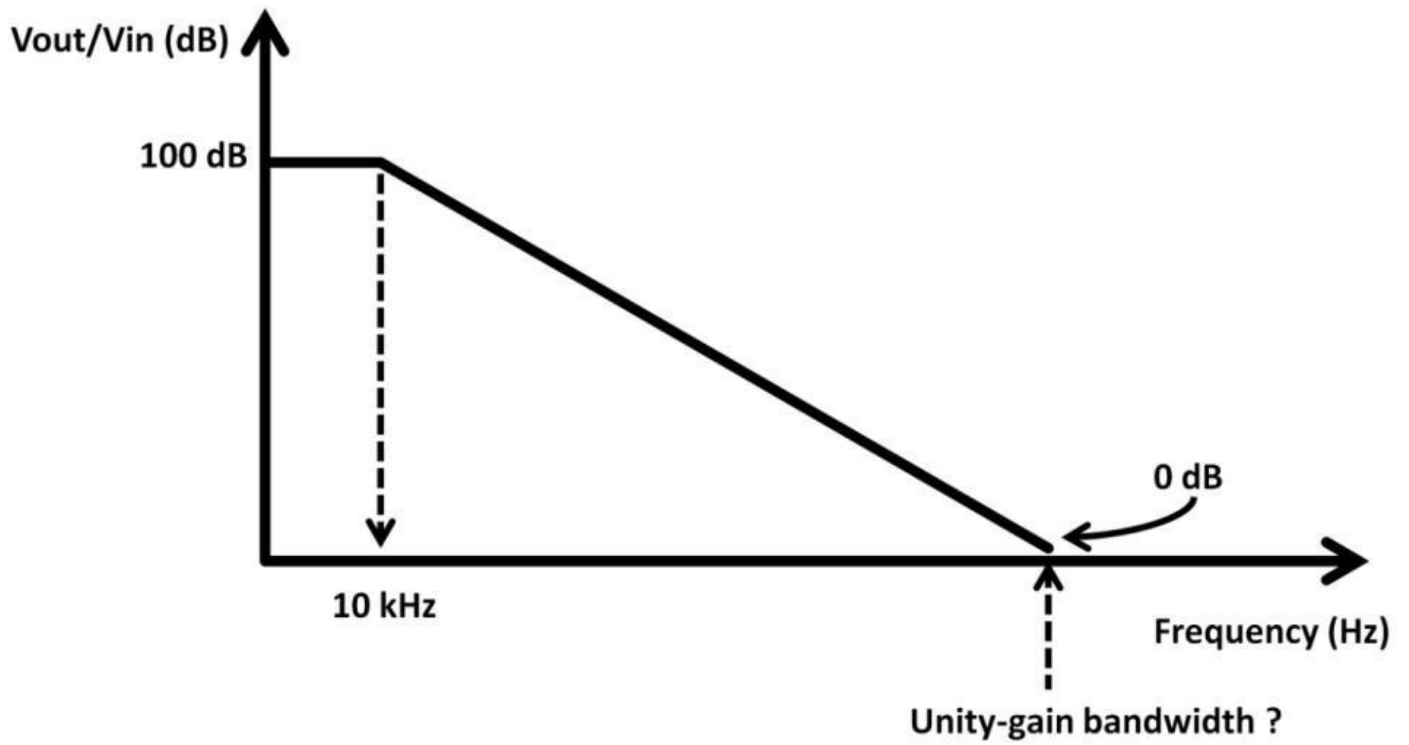

Figure 4.97: Amplifier frequency response
- 2) An amplifier has the following open-loop frequency response (see figure 4.97). From DC to 10 kHz, gain is at 100 dB. Estimate unity-gain frequency.